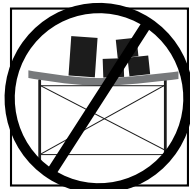

Fig. 3
- Do not overload the beams; refer to the span charts for loading capacity. Immediately remove beams from service that have been overloaded and visually inspect prior to reusing. (Fig. 3)